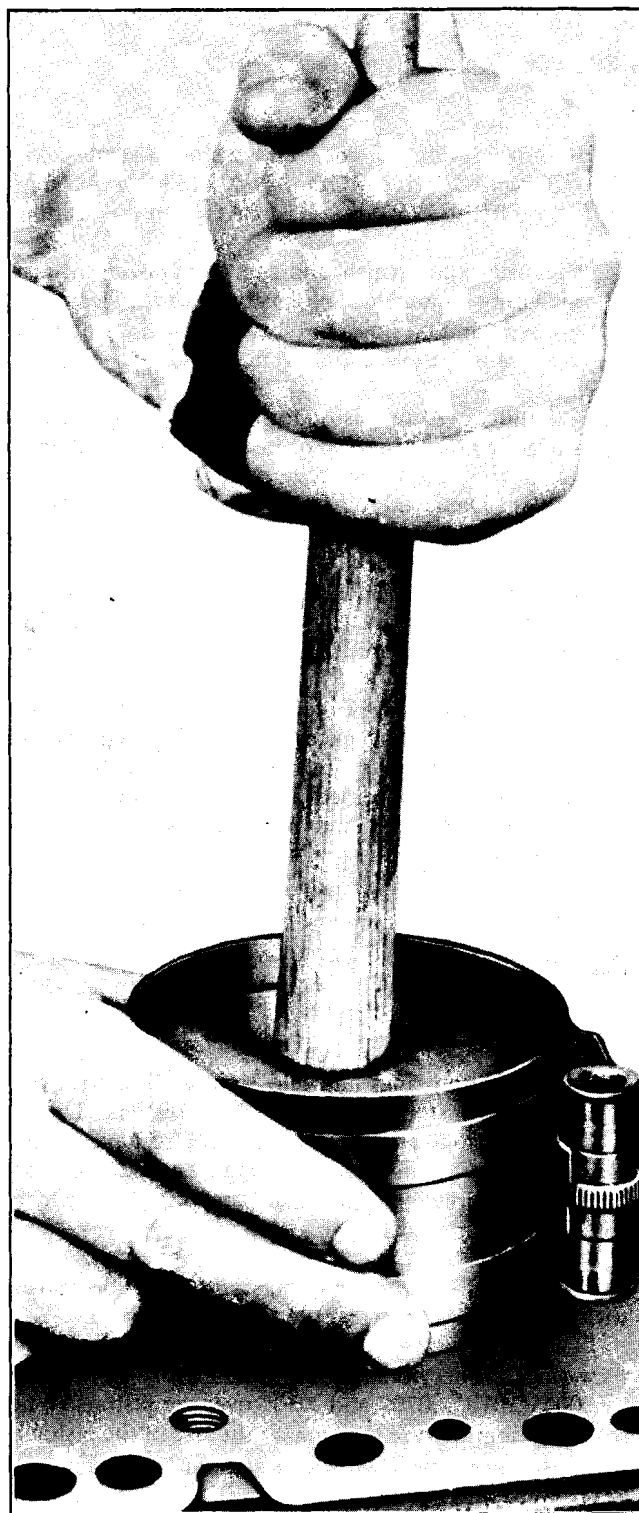

Fig. 6-70 Installing Piston in Cylinder
2. Using a suitable piston ring compressor insert rod and piston assembly into cylinder so that notch in top of piston is facing front of engine (Fig. 6-70).